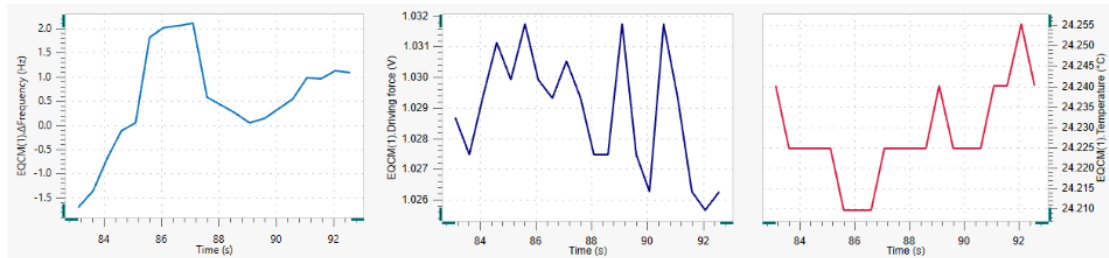

Figure 11 – The data recorded during the TestEQCM procedure
plot #1; the EQCM(1).Driving force (V) signal is shown on plot #2 and the EQCM(1).The EQCM(1).Temperature (°C) signal is shown on plot #3 (see Figure 11).